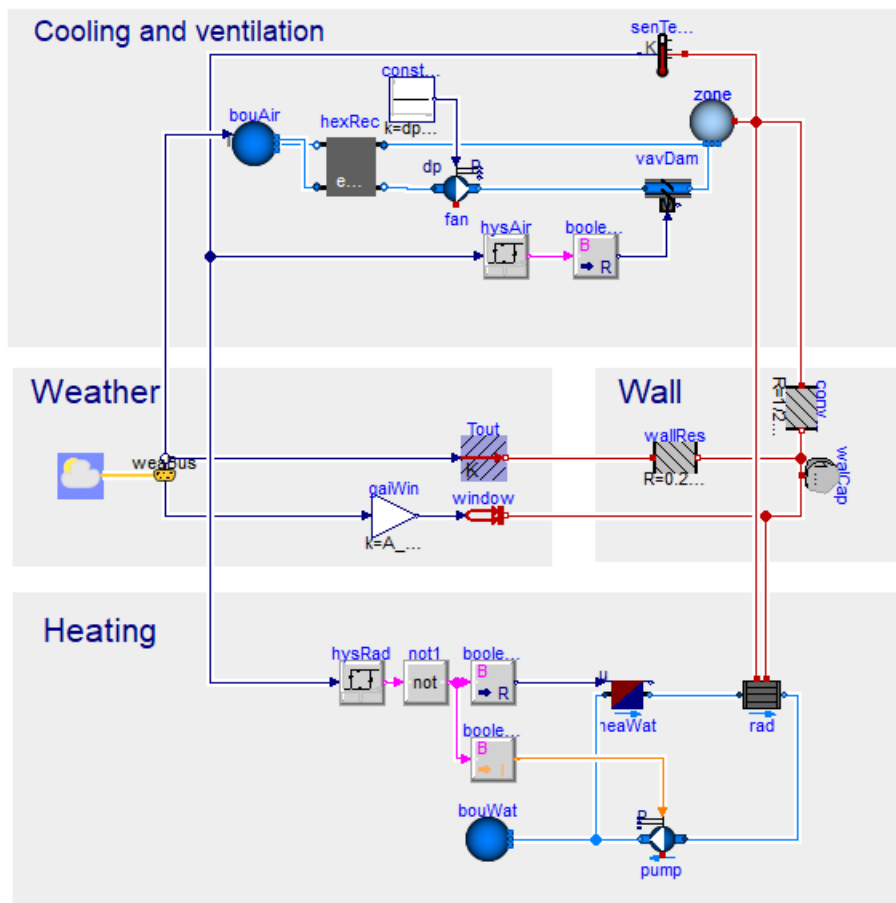

Figure 1: Graphical representation of the final simple house model.
In the following sections the simple house model is discussed in several steps. The graphical representation of the final model is given in Figure 1. Each step first qualitatively explains the model part. Secondly, the names of the required IDEAS models are listed. Thirdly, we provide high-level instructions of how to set up the model. If these instructions are not clear immediately, have a look at the model documentation and at the type of connectors the model has, try out some things, make an educated guess, etc. Finally, we provide reference results that allow you to check if your implementation is correct. Depending on the parameter values that you choose, results may differ.
**Connection instructions** Connect the components such that they exchange mass (and therefore also energy) with the `MixingVolume` representing the zone air. Add a `boundary_pT` to draw air from the environment. Enable its temperature input and connect it to the `TDryBul` variable in the weather data reader. Also reconsider the nominal mass flow rate parameter value in the `MixingVolume` given the flow rate information of the ventilation system. The final model will look like Figure 1.